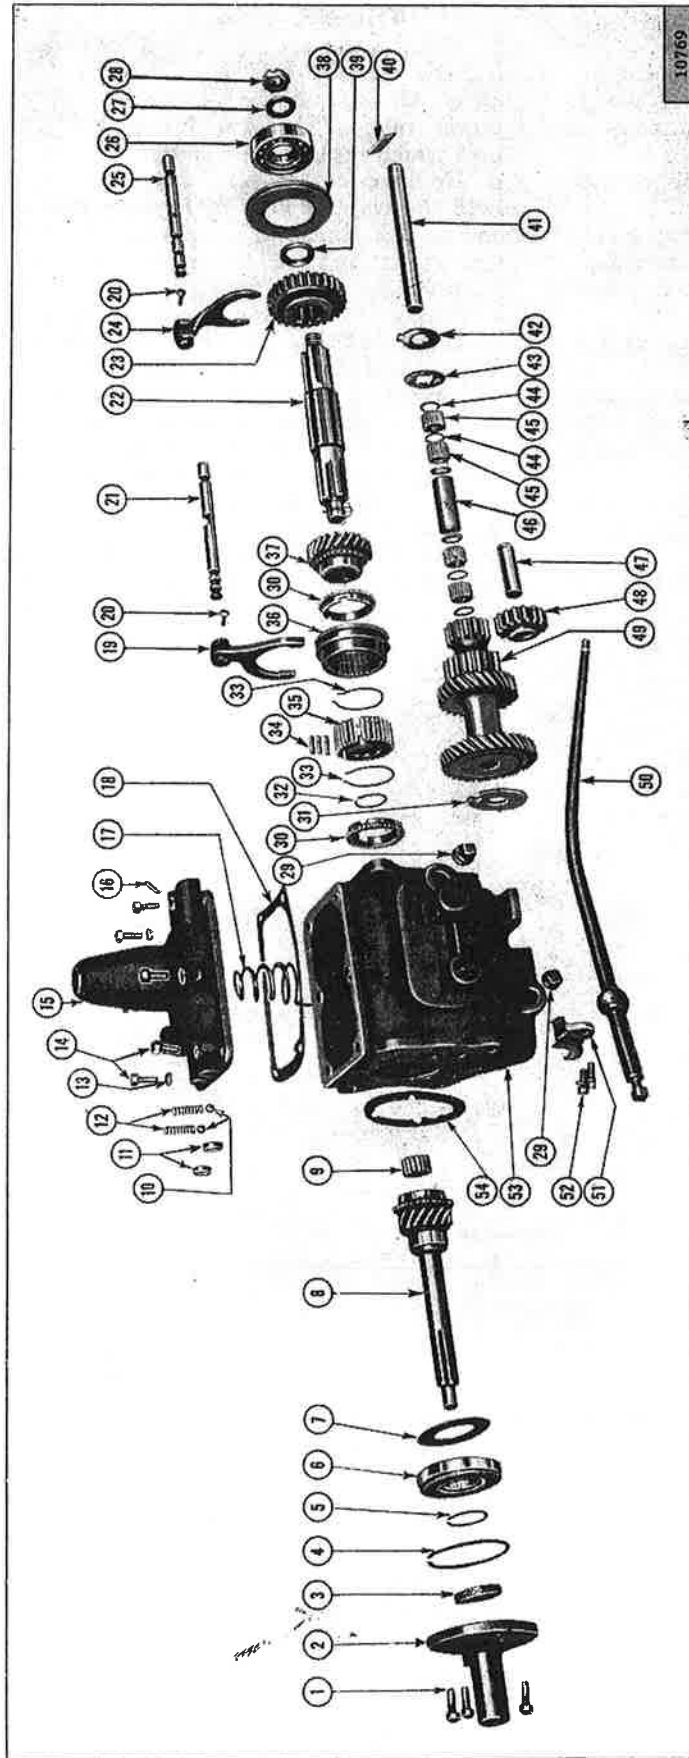

FIG. 184—THREE-SPEED TRANSMISSION—MODELS LATE CJ-2A, CJ-3A, CJ-3B, CJ-5, CJ-6
If the shift is not smooth and positive, first make sure the gears are in neutral position then remove the shift rods at the transmission by removing clevis pins, Fig. 184 No. 21, and slip a short piece of snug fitting $\frac{1}{4}$ " [6.35 mm.] aligning rod, through the gearshift levers and housing as shown in insert drawing.
- Refer to Fig. 184.
g. The sequence of assembly of the synchronizer unit is shown in Fig. 184. First install the two springs in the high and intermediate clutch hub with the spring tension opposed. Place the right lipped end of one spring in a slot of the hub and place the spring in the hub. Turn the hub around and make exactly the same installation with the other spring, starting with the same slot. Install the three synchronizer shifting plates in the three slots in the hub with the smooth side of the plates out. Hold the plates in position and slip the second and direct speed clutch sleeve over the hub with the long beveled edge toward the long part of the clutch hub. Install the two blocking rings one on each side of the hub. Install the completed assembly on the mainshaft with the beveled edge of the clutch sleeve toward the front end of the shaft.
- Refer to Fig. 184